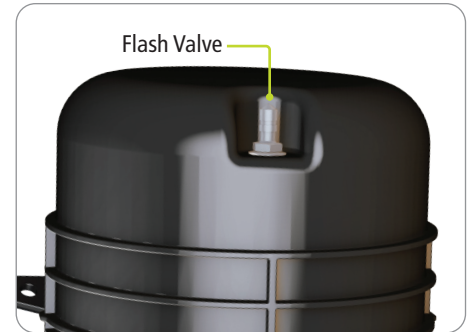

Figure 51
1. Apply maximum 5 PSI of air to the flash valve on dome. (Figure 51)